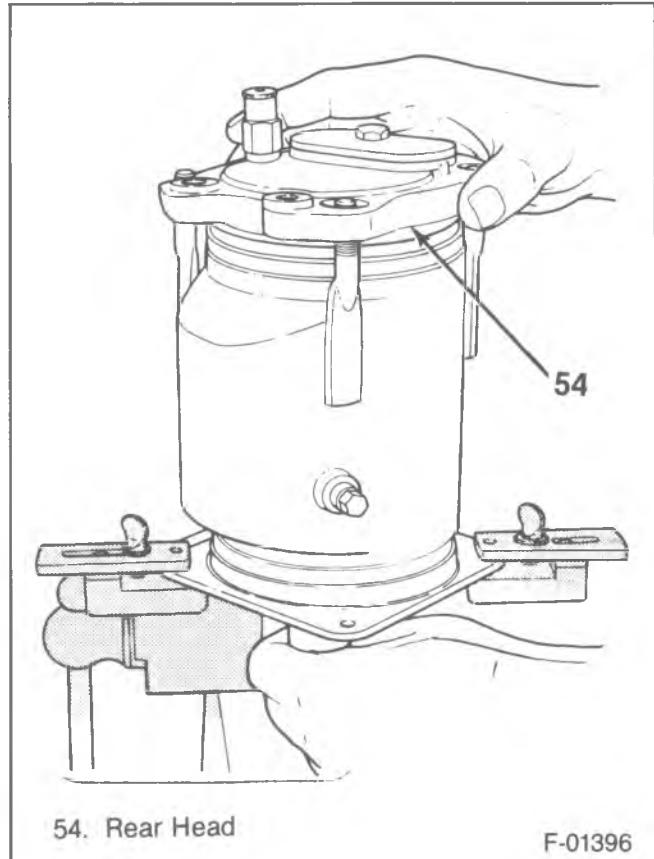

Figure 51—Installing the Rear Head
- Lubricate the surface of the rear head (54) with 525 viscosity refrigerant oil.
26. Rear head (54) to the shell (9) (figure 51).
- Do not let the suction screen (58) fall out of the rear head (54).
- If the rear head (54) will not slide down over the dowel pins (45), twist the front head (16) back and front by hand until the rear head (54) drops over the dowel pins (45).